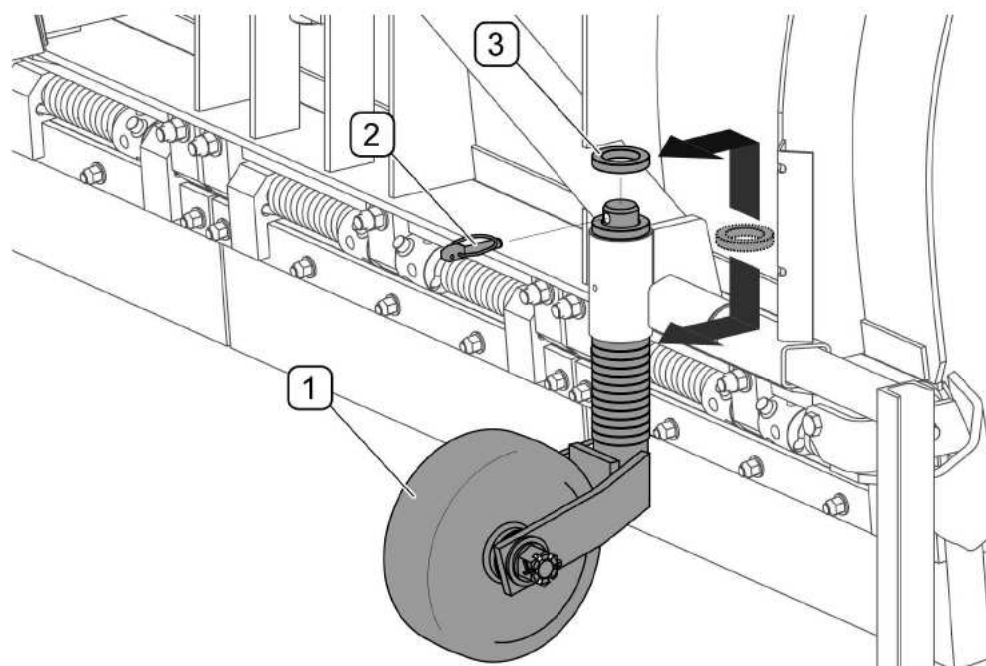

FIG. 4.15 Working height adjustment
Working height adjustment (FIG. 4.15) in ploughs equipped with wheels is carried out by proper setting of wheel height. Wheel height is adjusted with the use of 10 mm-high spacer washers. In order to lift wheel (1), take out cotter pin (2) and relocate spacer washers above the wheel bracket. Wheels are recommended to be set in such a manner as to ensure that the plough blade lightly touches cleaned surface. Right and left wheel heights should be the same.